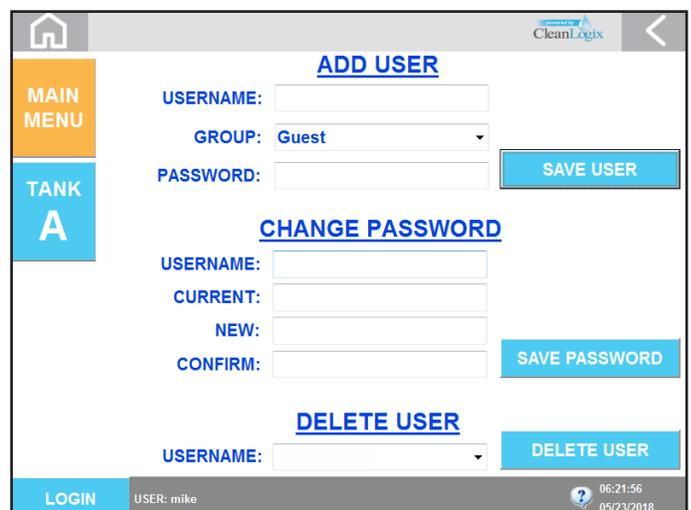

Figure 6.3: User Accounts Screen
4. Enter information as necessary for the following procedures [Figure 6.3]: